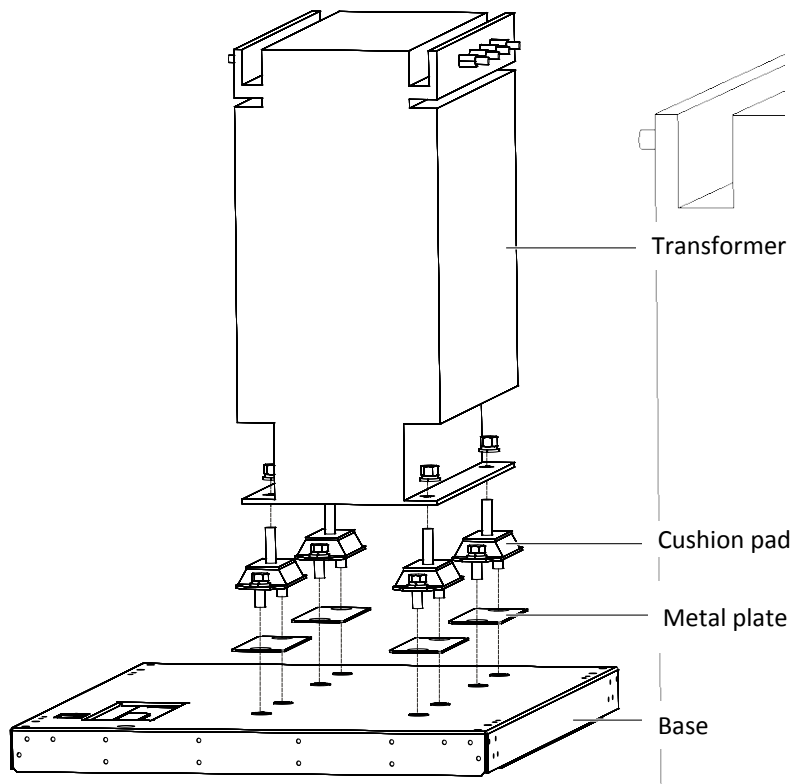

Figure 8-27 Installing output transformer (1)
b) Install the metal plates and cushion pads onto the base, as shown in Figure 8-27.